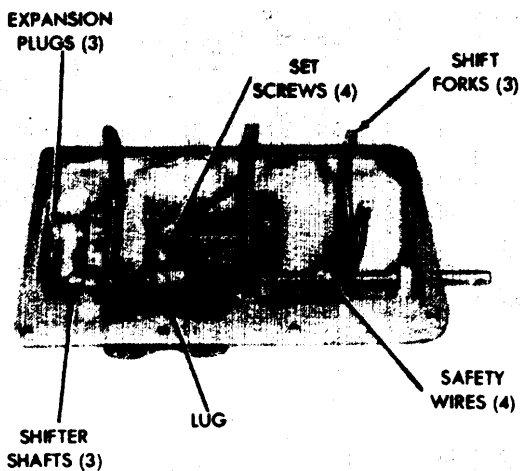

Figure 3-42. Removal of Expansion Plugs, Setscrews, Shifter Shafts, Actuating Lug and Shifter Forks.
(2) Using a punch and hammer, remove the expansion plugs. Clip the safety wire and loosen the four setscrews holding the shift forks and actuating lug in position. (See fig. 3-42.) Then remove the three shifter shafts.
(5) Tighten the four setscrews securing the shift forks and actuating lug in position. (See fig. 3-42.) Install safety wire on the setscrew. Install the expansion plugs, using a hammer and suitable punch.